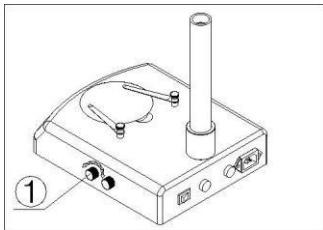

Fig.13
- 1) Turn the adjustable light knob① according to the sign marked on The base, along the clockwise the brightness will be added, otherwise it will be weakened. (Fig.13)